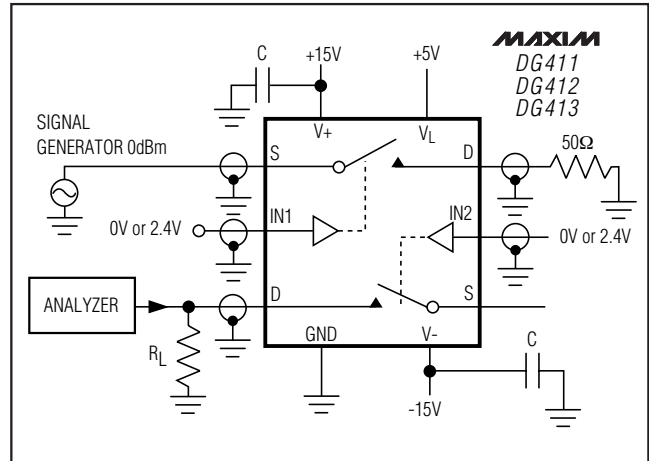

Figure 6. Crosstalk
- Note 6:** Between any two switches. See Figure 6.
- Note 7:** Leakage parameters IS(OFF), ID(OFF), and ID(ON) are 100% tested at the maximum-rated hot temperature and guaranteed by correlation at +25°C.